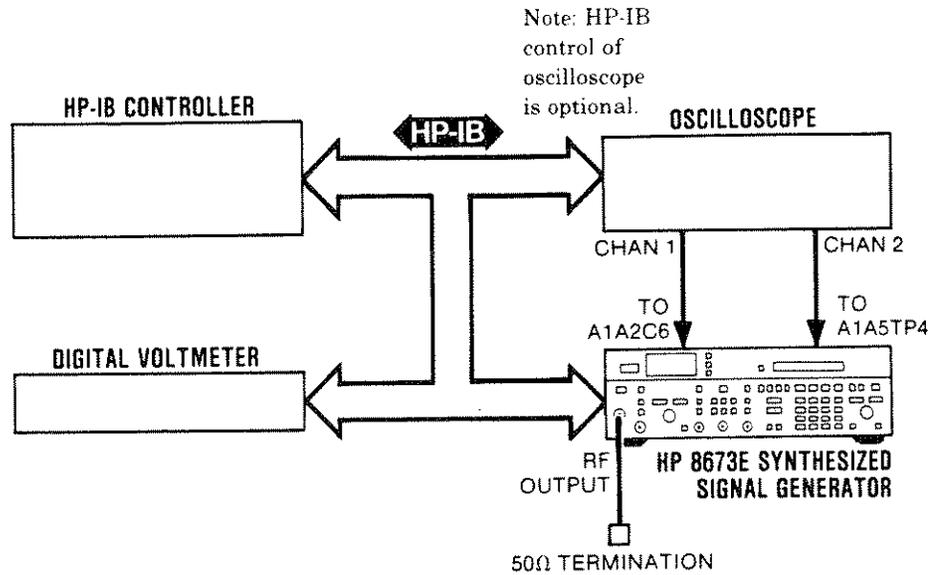

Figure 5-22. YTM Tune Adjustment Test Setup
1. Connect equipment as shown in Figure 5-22.